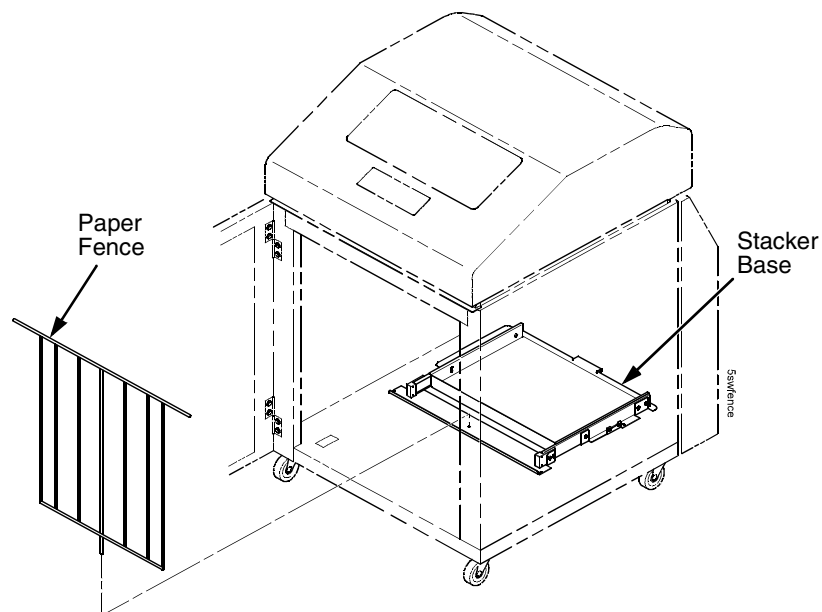

Figure 74. Removing the Paper Fence
5. Cut the tie wrap (if present) and remove the paper fence. (Figure 74.)